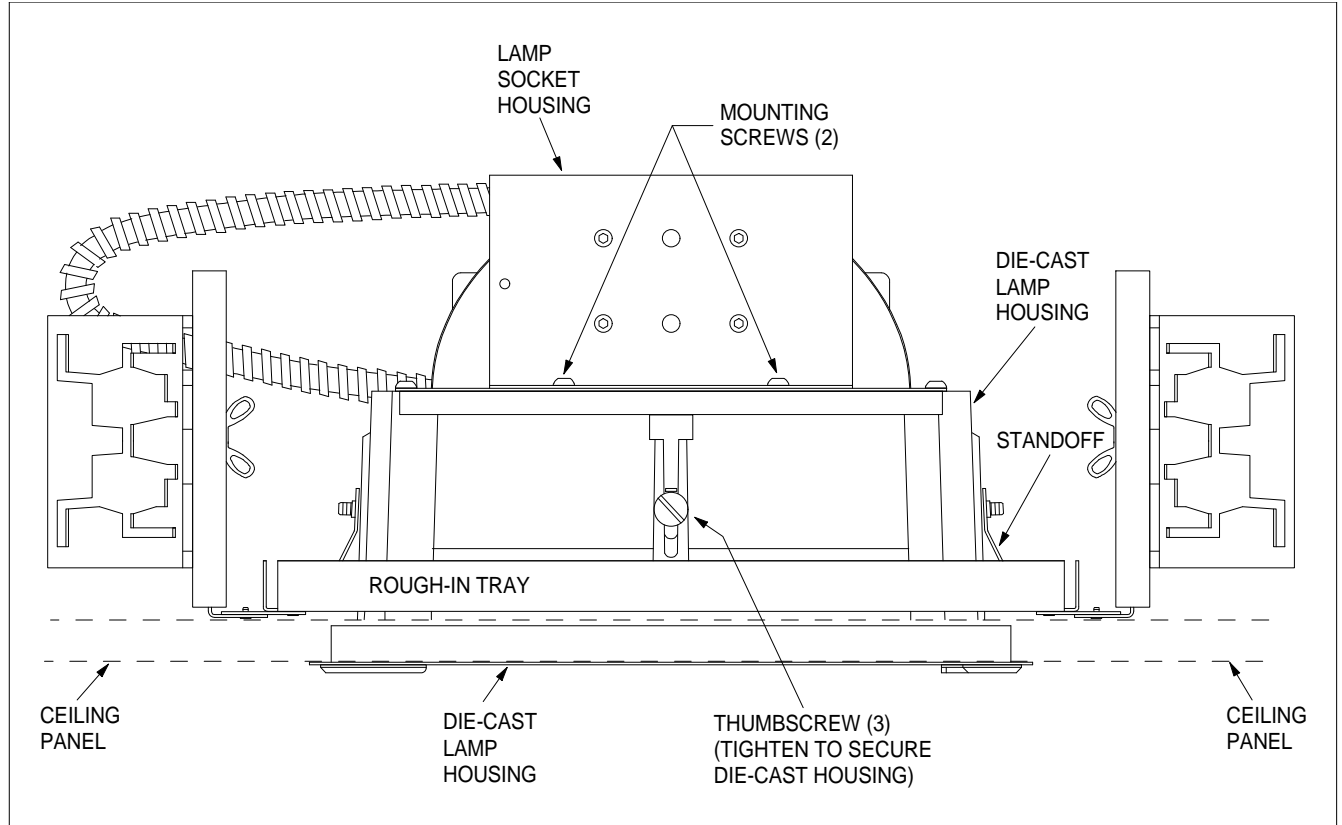

Figure 3 - Lamp Socket Housing and Die-cast Lamp Housing Installation
2. Mount the lamp socket housing onto the die-cast housing with the two screws provided, as shown in Figure 3.
4. Secure it in place by installing the three standoffs (Fig. 3) and tightening their thumb-screws. Make sure that the black plastic trim of the lamp housing is fully inserted into the ceiling panel and flush against it.